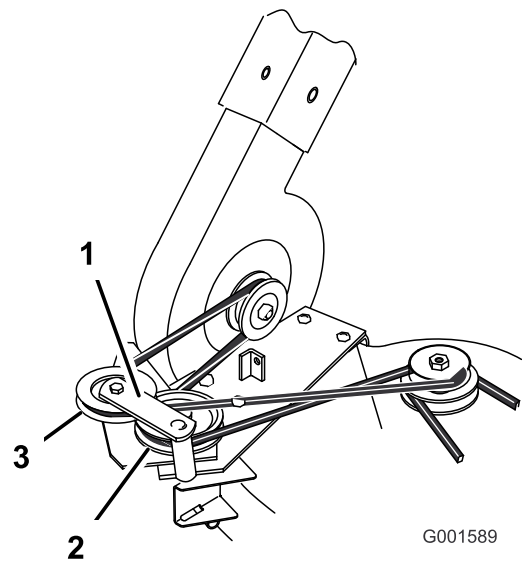

Figure 8
3. Open the latch and swing the blower out away from the mower, install the blower belt around the idler and blower pulleys as shown Figure 8. Install the other end of the belt over the blower drive pulley on the mower spindle.